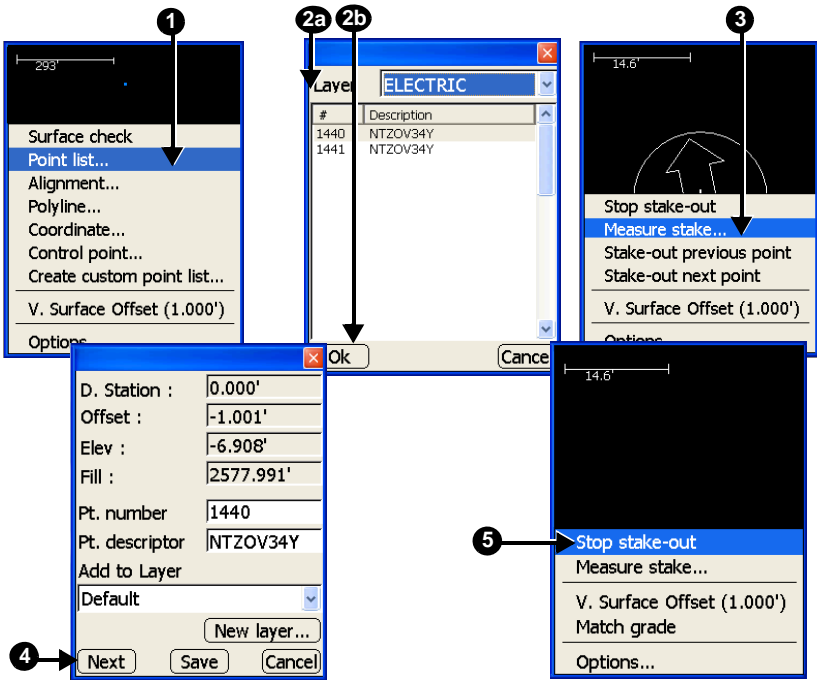

Figure B-20. Stakeout Point
4. To stakeout the next point in the list, press **Next** (Figure B-20 on page B-16).
- To stop the stakeout, press **Ok** and tap **Survey** ► **Stakeout** ► **Stop stake-out** (Figure B-20).